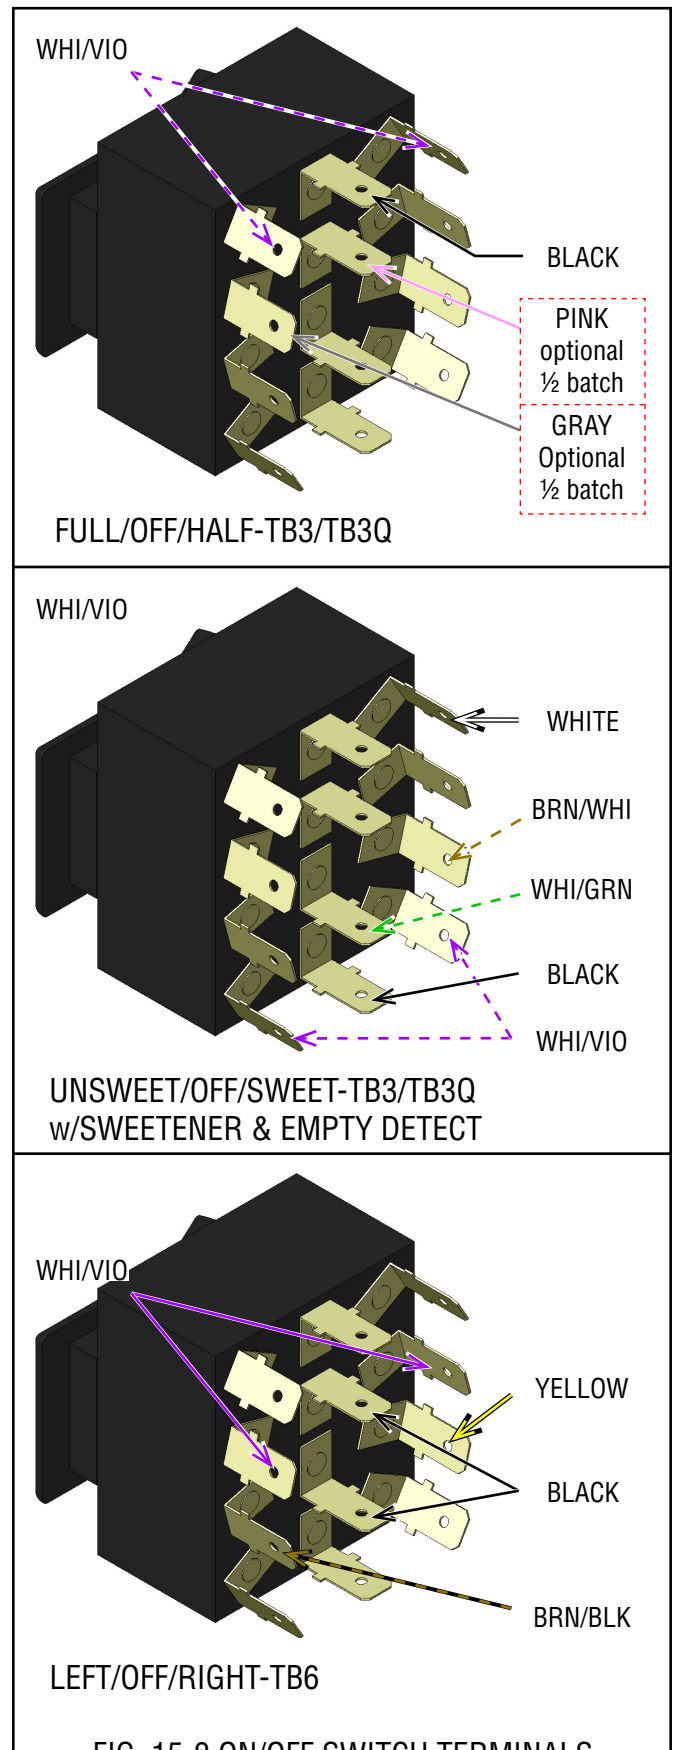

FIG. 15-2 ON/OFF SWITCH TERMINALS
4. Refer to FIG. 15-2 when reconnecting the wires.